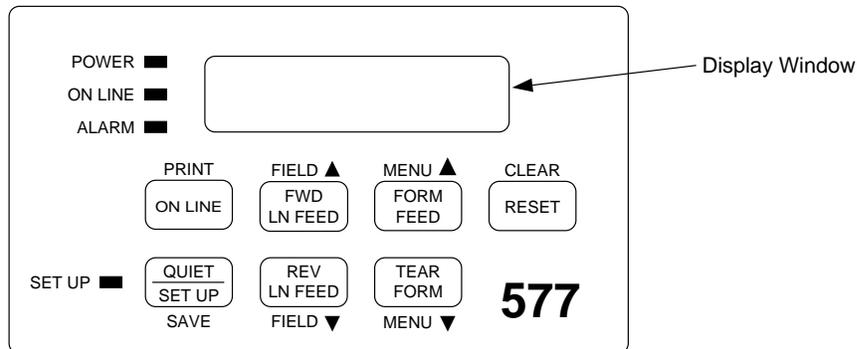

Figure 18-1. Model 577 ROP Control Panel
- 4.1. At the ROP control panel, press the **ON LINE** button. See Figure 18-1.
- 5.1. At the ROP control panel, press the **ON LINE** button to remove the ROP from service and place it off-line. See Figure 18-1.
- 6.2. Ensure the ROP is off-line. If the **OFFLINE** message does not appear in the display window, press the **ON LINE** button at the ROP control panel. See Figure 18-1.